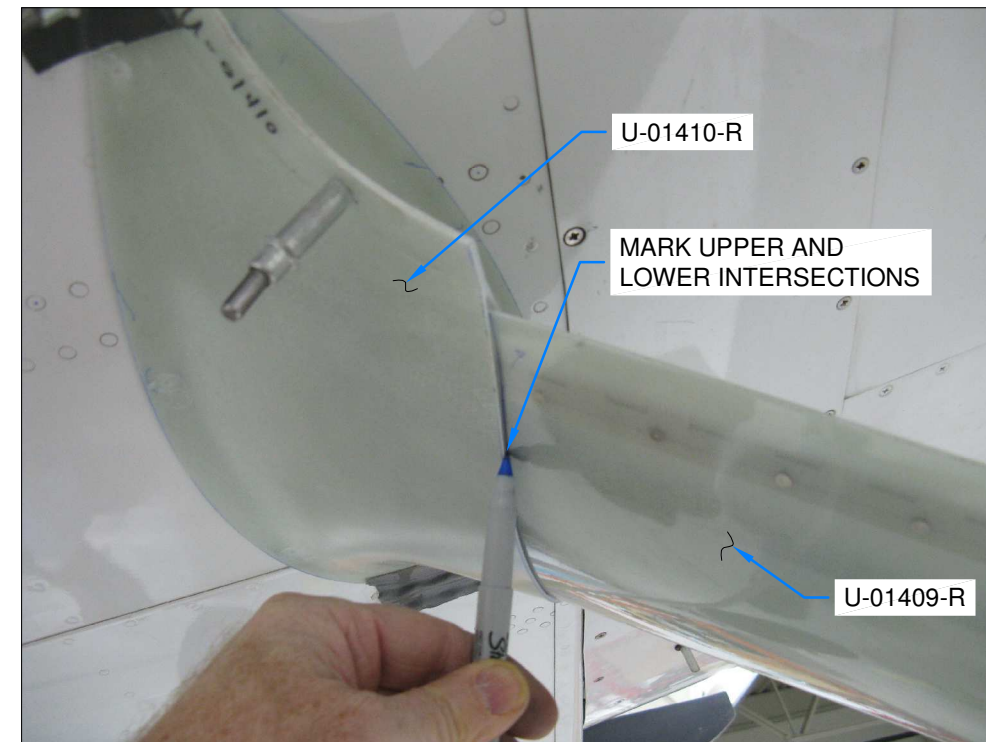

FIGURE 2: MARK UPPER INTERSECTION LOCATION
Step 4: Use a pen to mark the location of the upper and lower intersection fairing edges on the gear leg fairing. See Figure 2.